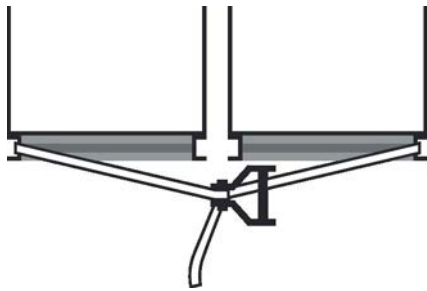

Fig. 16: Attaching a ratchet strap
4. ▶ Attach a ratchet strap to the base frames of two casing units ( Fig. 16 ).